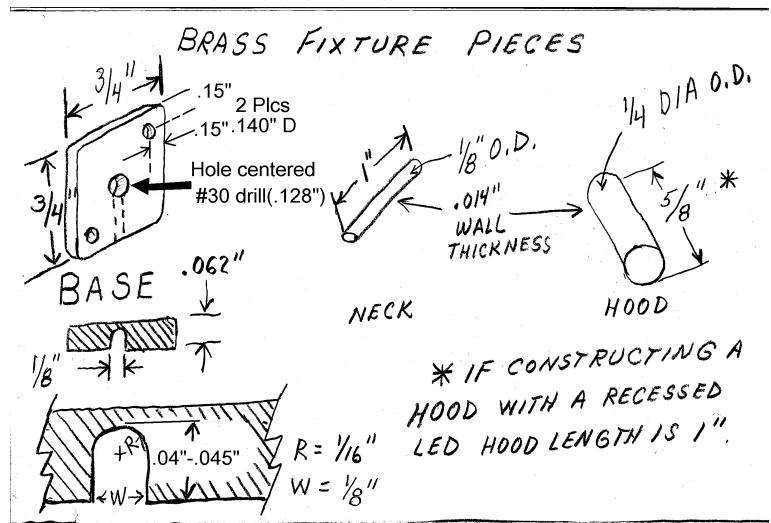

Figure 7
MATERIALS: Assorted brass stock as shown in **Figure 7**, low temperature alloy solder (high strength), liquid solder flux, small diameter rosin solder (60/40 preferable), 5mm LED white-ultra water clear, 24" 26 gauge stranded wire 1Black & 1Red w/.040" max O.D. insulation, 3/32 diameter X 3/16" L heat shrink piece, cotton swabs, sheet of #220 grit abrasive paper, small section of #1000 grit abrasive paper, denatured alcohol, black satin finish SEP primer spray paint, black satin spray paint finish coat, small Teflon sleeving or equivalent material (E.M. = solder will not melt or adhere to it), Nitrile rubber disposable examination gloves.
1. **Component Preparation** Refer to **Figure 7, 8**. Obtain the materials shown in the illustration. Prepare the raw pieces shown for later assembly. Deburr all ends and edges of the pieces, slightly chamfer fixture base holes.